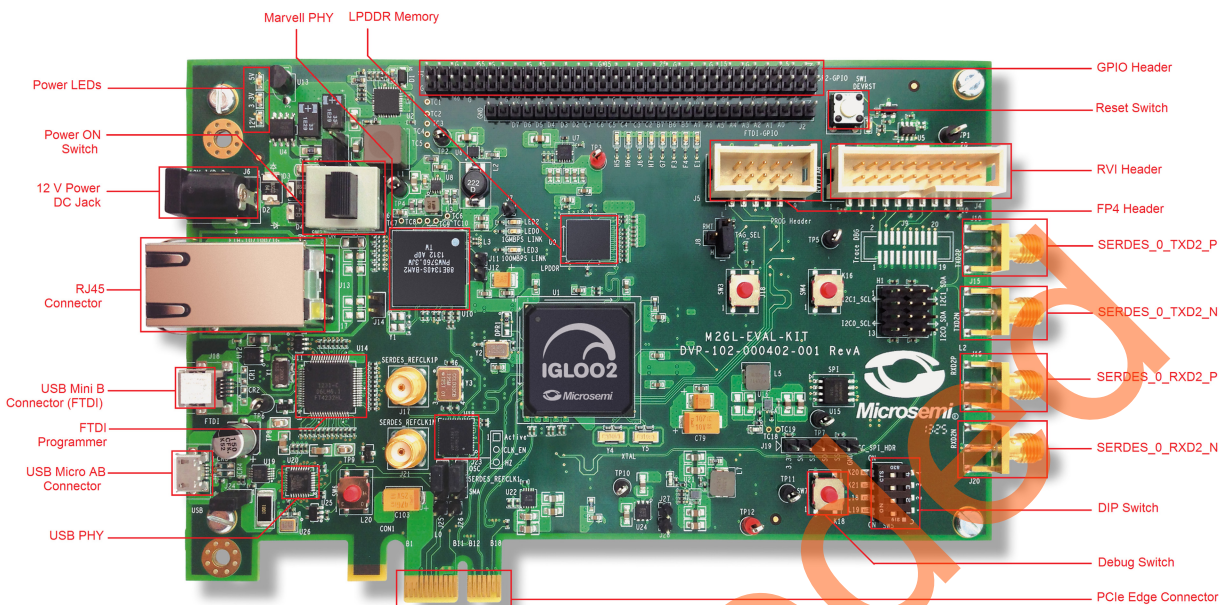

Figure 5 • IGLOO2 Evaluation Kit Board
Figure 5 shows the IGLOO2 Evaluation Kit board with cable connections.
1. SmartFusion2 and IGLOO2 Evaluation Kit boards use common PCB design. Figure 5 shows IGLOO2 Evaluation Kit board.